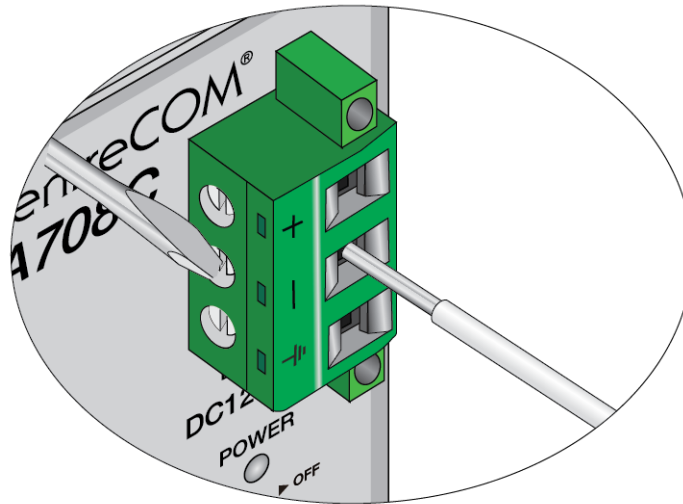

Figure 10. Connecting the Frame Ground Wire
- Connect the frame ground wire to the terminal marked with the ground symbol by inserting the wire into the terminal block and tightening the connection with a flathead screwdriver, as shown in Figure 10 on page 32.